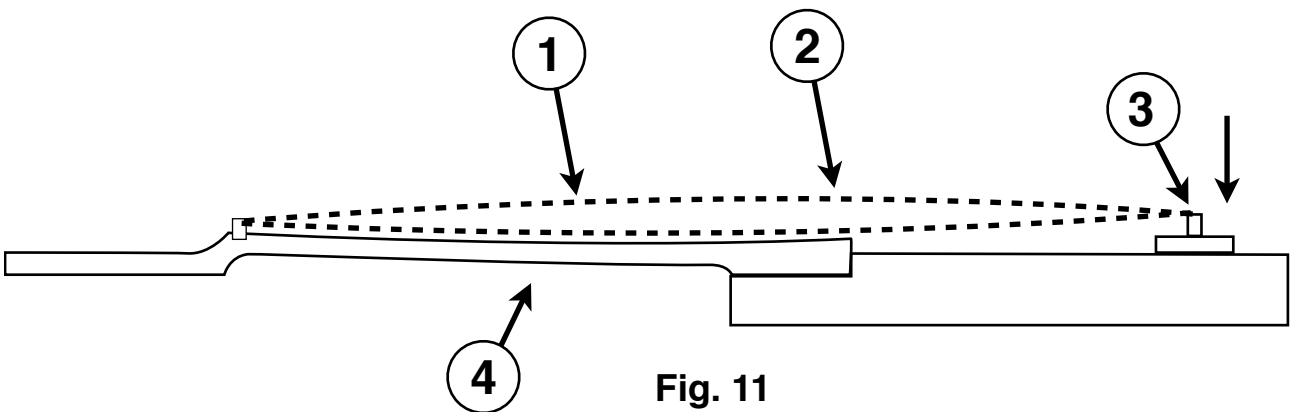

Fig. 11
After raising the strings, the instrument won't buzz ①, but you will find that it isn't very comfortable to play, especially in the higher positions ②. To prevent this problem, you must slightly arch (**Fig. 11**) the neck ④ in such a way so that it accommodates the natural shape of the strings as they vibrate. By doing this, we make sure that the bass doesn't buzz, so we can then lower the strings at the bridge ③, achieving a more consistent string height over the neck ① ②, which will give us much more playing comfort all along its length as opposed to the awkwardness we feel when the neck is completely straight.